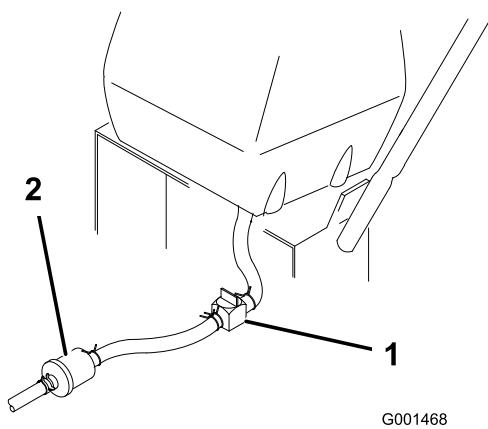

Figure 28
2. Close the fuel shut-off valve at the fuel tank (Figure 28).
3. Squeeze the ends of the hose clamp together and slide it up the fuel line away from fuel filter (Figure 28).
4. Pull the fuel line off the fuel filter (Figure 28). Open the fuel shut-off valve and allow the gasoline to drain into a gas can or drain pan.
7. Open fuel shut-off valve at fuel tank (Figure 28).
3. Close fuel shut-off valve at the fuel tank (Figure 28).